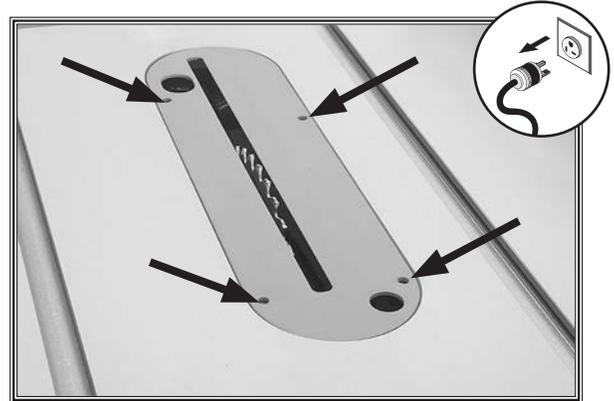

Figure 124. Location of table/dado insert holes with adjustment screws.
The table/dado insert must sit perfectly flush with the table to provide a smooth, continuous surface for the workpiece to slide over. The insert is held in place by a magnet and sits on top of four adjustment screws (see **Figure 124**).
3. Insert hex wrench through holes shown in **Figure 124** and either loosen screws to raise insert, or tighten screws to lower it. Repeat **Steps 2-3** until insert is perfectly flush with surface of table.